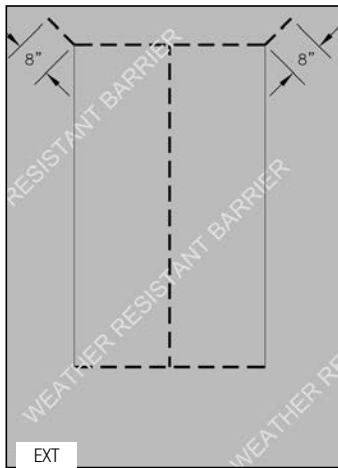

FIG. 5
- F) Make an "I-Cut" in the weather-resistant barrier (WRB). Begin with a horizontal cut along the bottom and the top of the rough opening. Then make a vertical cut in the center from top to bottom. (Fig. 5)